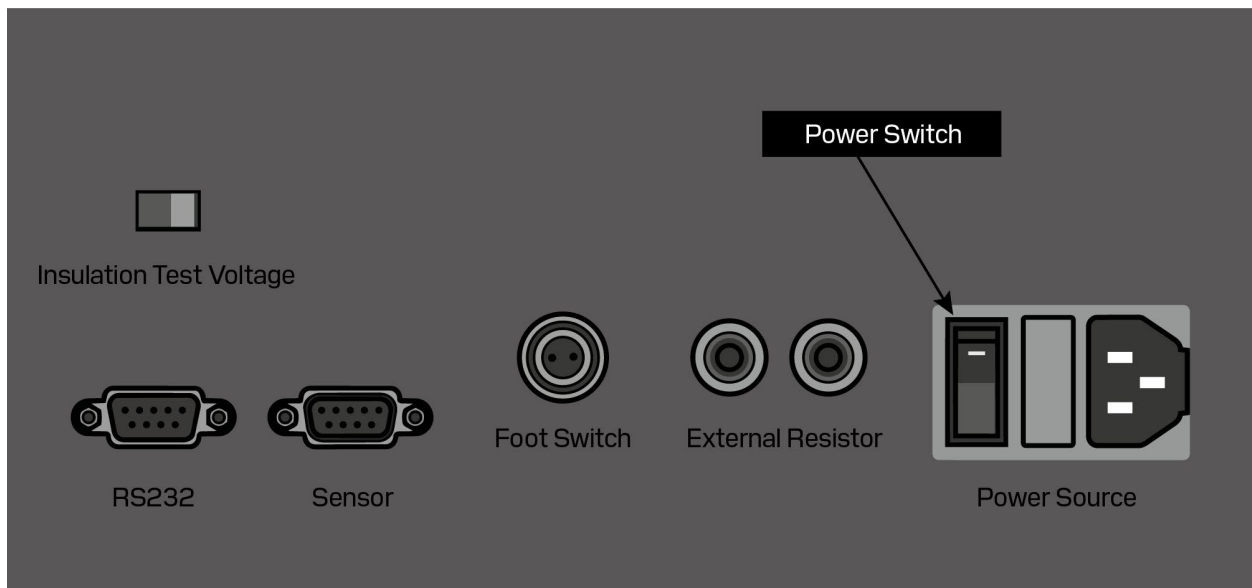

Figure 8: Rear Panel
Two mechanical configurations share the same AN404 electronics: (A) Benchtop standard – rear panel, DB9 sensor cable, external junction box, RS232, foot switch, and probe sockets (Figure 8). (B) Portable carry-case – integrated lid display and base-panel sensor interface; RS232 and foot switch remain available inside the case (see internal label). Sections 5.1–5.5 are benchtop; section 5.6 is portable.
The foot switch connects to the instrument panel using a secure XS12 aviation plug, allowing users to trigger hands-free measurements by simply stepping on the pedal. Connect the foot switch via the port on the rear panel. See Figure 8.